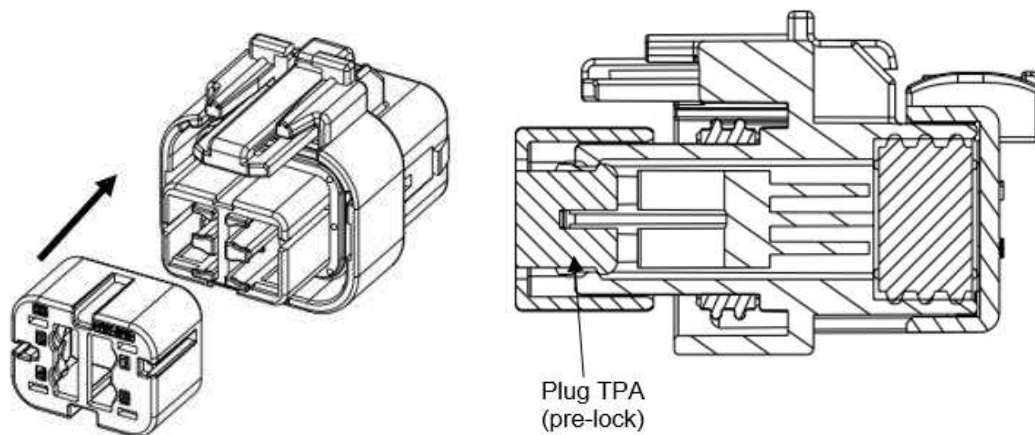

Figure 7
- i. Insert TPA from front end as shown in figure and push the TPA inside the housing until hear the “Click” sound. Keep the TPA in pre-lock position as shown in Figure 7.